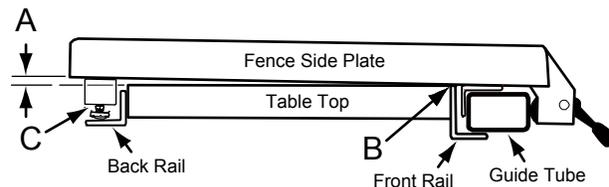

Figure 16
5. View the fence from the left side of the saw (Figure 16). Look for the space *between the table and the fence bottom* to be equal along the entire length of the fence (A, B, Fig. 16).
7. Using a 10mm wrench, loosen the *lock nut* that secures the *foot adjustment* (C, Fig. 16)
8. Rotate the *foot*, retracting it such that it does not come in contact with the *back rail* (Fig. 16).
When the space at points A and B (Fig. 16) are the same:
10. Extend the *foot* (C, Fig. 16) by rotating it until it just comes in contact with the *back rail*.